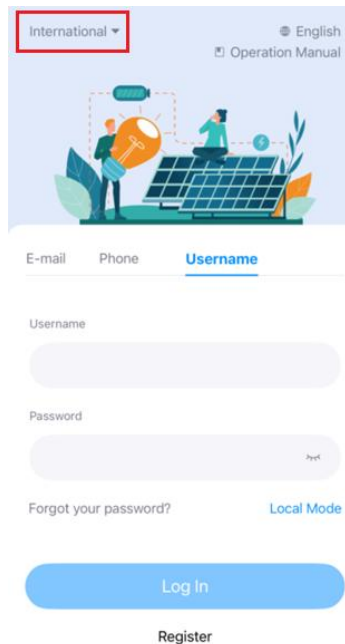

Figure7-12-1
STEP2:Open the SOLARMAN SMART App to enter the login screen, shown in the Figure7-12-1.